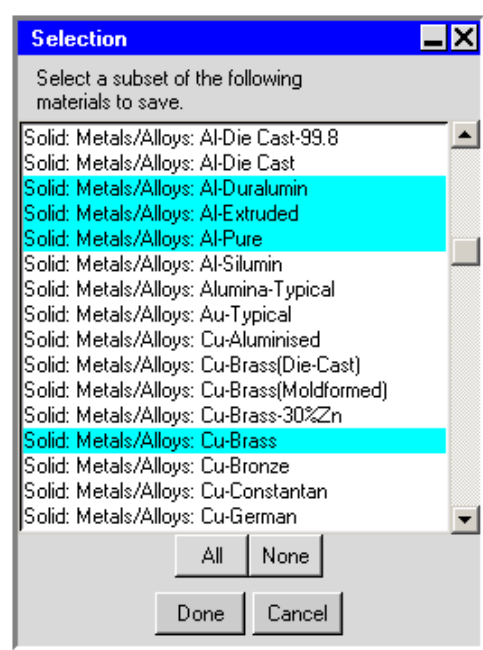

Figure 7.7.7: The Selection Panel for Saving Materials
2. Select all the materials that you want to save from the list in the **Selection** panel (Figure 7.7.7). Click **All** if you want to select all the materials in the list. Click **None** to deselect all of the materials in the list.